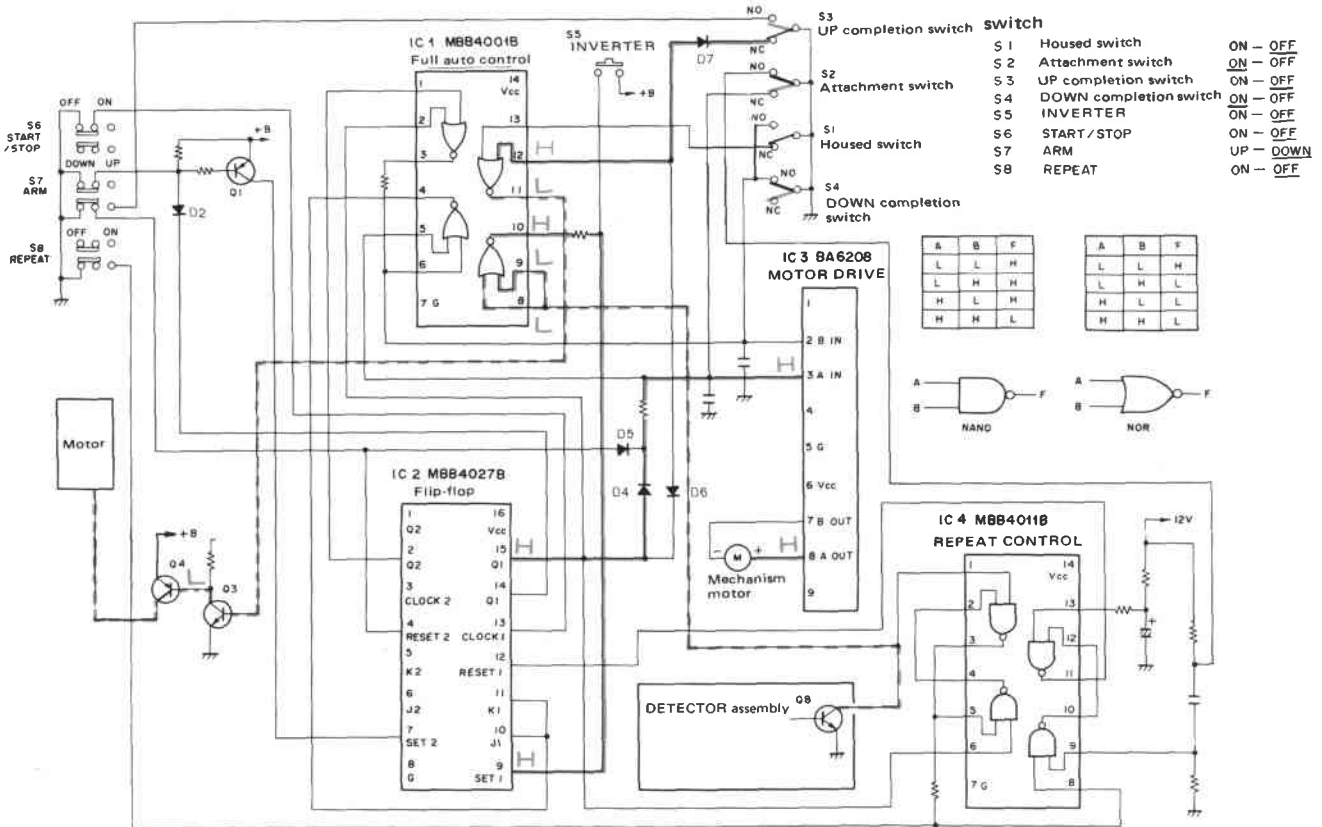

Fig. 4-4 Auto return
1. After record playback is completed and the tonearm stylus moves from the record groove into the lead out groove, the amount of movement of the tonearm causes the collector voltage of transistor Q5 to rise. This causes the base voltage of Q8 to rise, turning the transistor ON (figure 4-4).